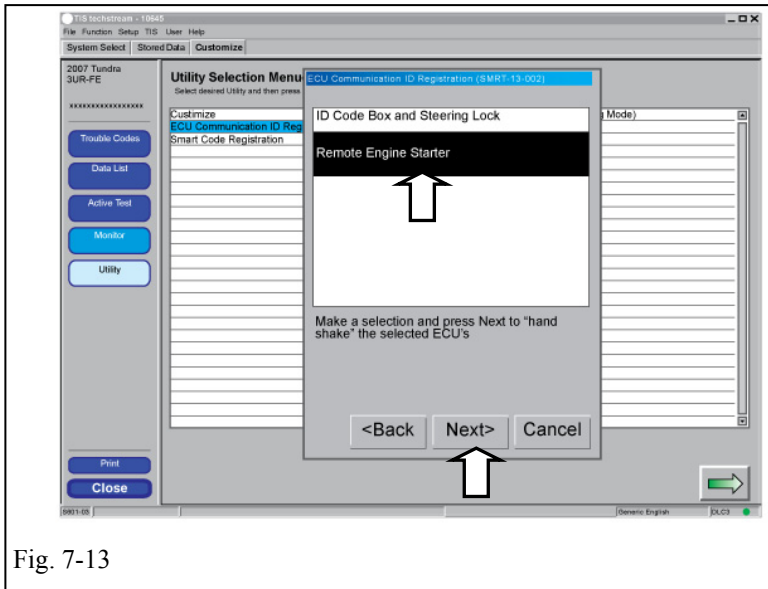

Fig. 7-13
- (w) Select "Remote Engine Starter" (Fig. 7-13)
- (x) Click "Next" (Fig. 7-13)